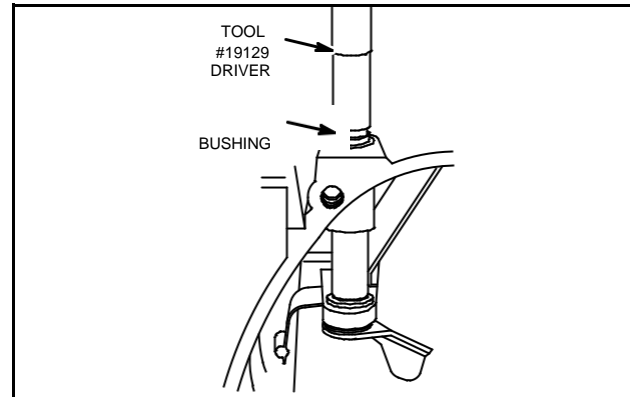

Fig. 18 – Install Bushing
9. Press bushing in until it bottoms, Fig. 18.